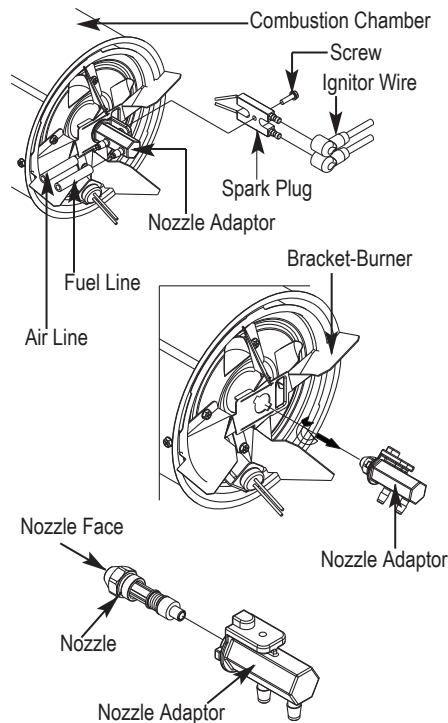

**Figure 13 – Nozzle Replacement For Models CP045CK-CP175DK**
- Turn nozzle adaptor 1/9 turn (40°) to counter clock wise and pull toward motor to remove. (See Figure 13)